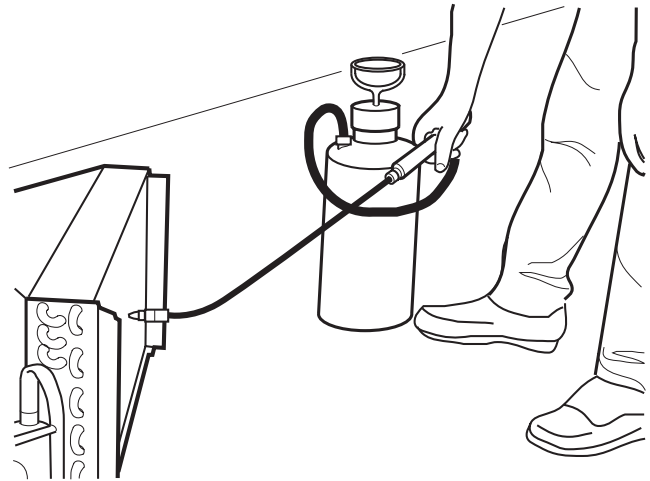

FIGURE 28 — CLEANING THE COILS
2. With a tank sprayer or a trigger spray extension tube, spray coil cleaning solution evenly across the coils, making sure coils are thoroughly saturated. See Figure 28. Refer to instructions on the cleaning solution containers for best results. **Do not use a high pressure sprayer.**